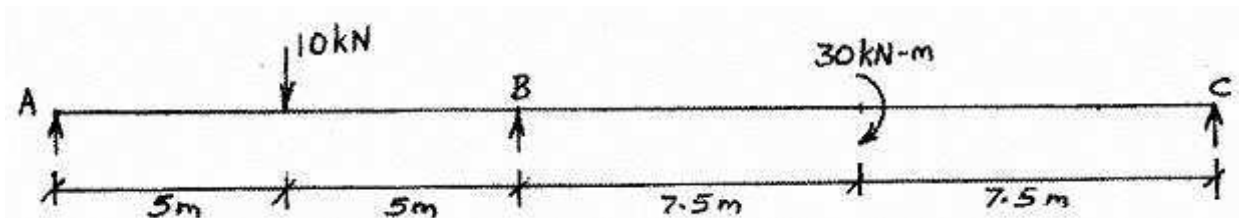

Figure 2:
4. A two span continuous beam of constant moment of inertia is loaded as shown in Figure 2. Find the support moments using Clapeyron's theorem of three moments. Also plot BM and SF diagrams for the beam. [16]